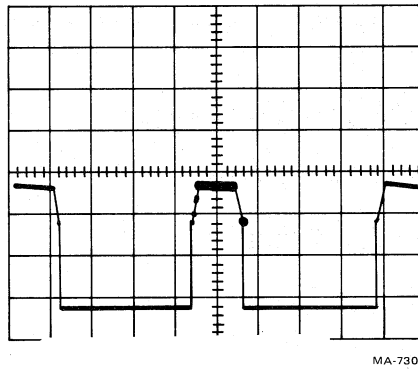

Figure 6-45 AMTIE Signal Switching
- e. Place the transport on-line. The transport drives the tape forward and writes the 10000000 data pattern on each track down the tape. This pattern causes each track to produce an AMTIE. Each output goes to ground and returns to +5 V as shown in Figure 6-45.
- f. All AMTIE channels should look similar to Figure 6-45. If one or more do not, trace the signal back using Figure 6-39.